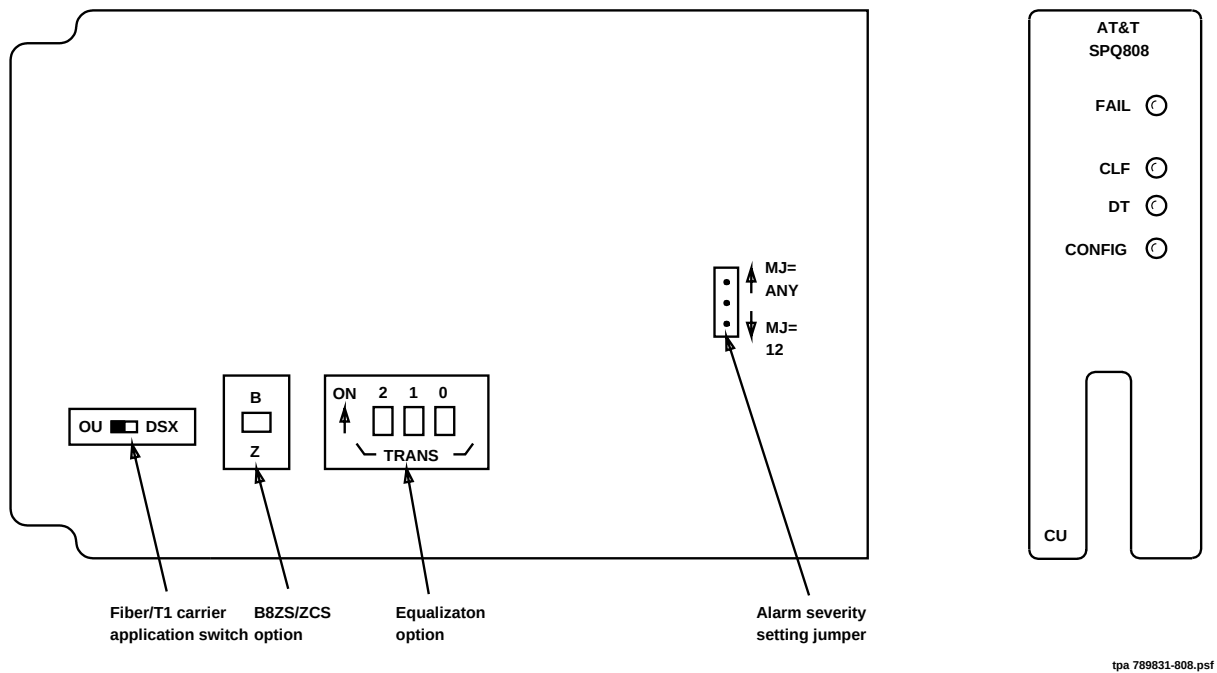

Figure 3 – SPQ810/811 Option Switches
1. The SPQ810/811 DT Server (Figure 3) is being connected to a WBS.